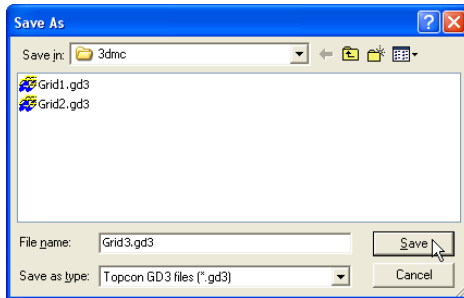

Figure 8-22. Save Grid Surface File
2. On the **Save As** dialog box, do one of the following (Figure 8-22):